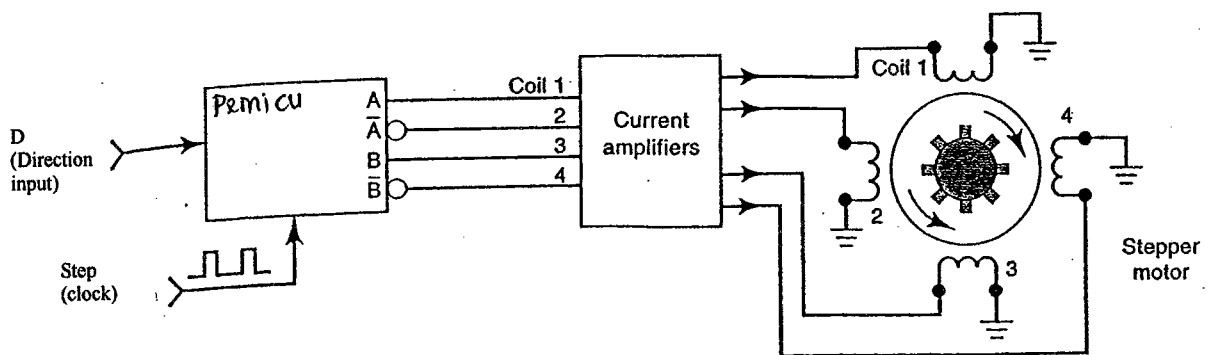

Figure 8
- (c) Stepper motor is controlled by 4 coils, coil 1, coil 2, coil 3 and coil 4 as shown in Figure 8. Coil 1 and coil 2 must always be in opposite states, that is when coil 1 is energized, coil 2 is not and vice versa. Likewise, coil 3 and 4 must always be in opposite states. The current amplifiers are needed because the flip-flop output cannot supply the amount of current that the coils require. Stepper motor can rotate either in clockwise or counter clockwise depends on direction input D. If $D = 0$ is for clockwise rotation and $D = 1$ is for counter clockwise rotation, design a circuit to drive the stepper motor using JK flip-flop. Include the state diagram, excitation table, Karnaugh map and block diagram.